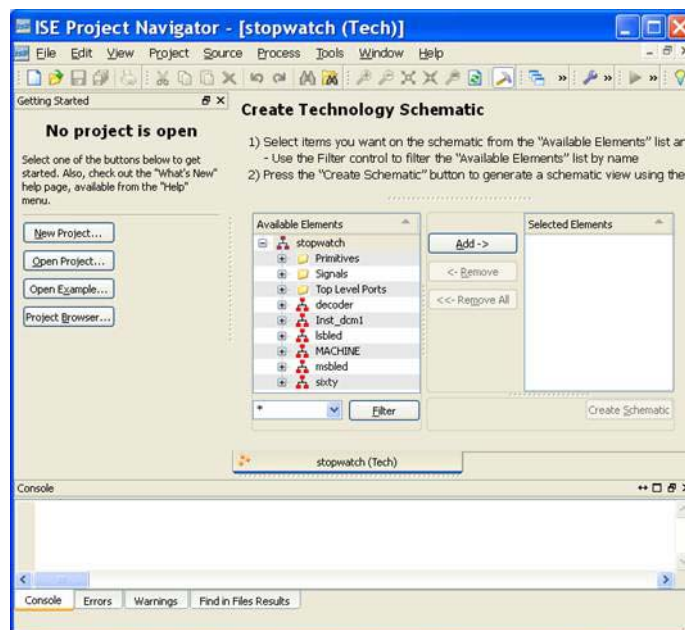

Figure 10-2: Schematic Viewer Wizard
2. Select the **Start with the Explorer Wizard** startup mode. Project Navigator loads the netlist and starts the Schematic Viewer Wizard as shown in Figure 10-2. Now you can move on and explore your design.